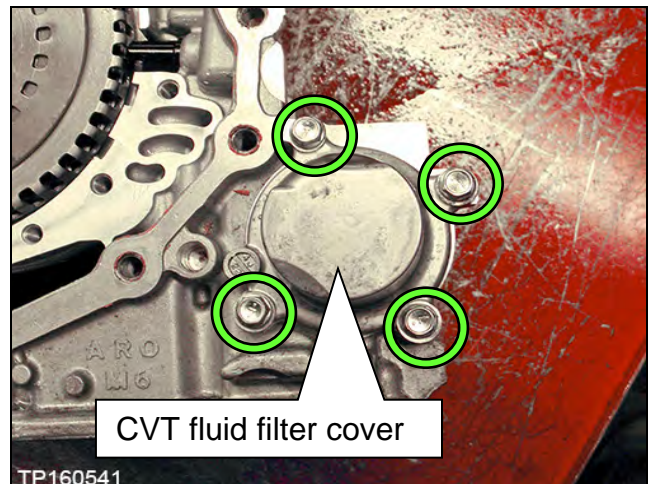

Figure 26B
- a. Remove the four (4) bolts and then remove the CVT fluid filter cover (Figure 26B).